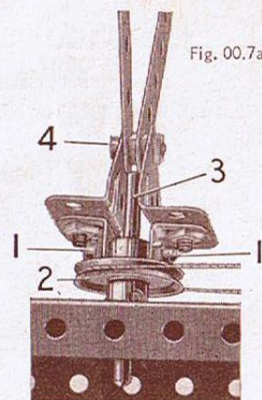

Fig. 00.7a
The bolts (1), each fitted with a nut, are passed through Angle Brackets and are screwed into the threaded holes in the boss of a 1" Pulley (2) until they grip a 2" Rod (3). This Rod is passed through a second 1" Pulley and the Flanged Plate and is held in position by a Spring Clip. The 5½" Strips are fixed by nuts on a ¾" Bolt (4), Fig. 00.7a. A piece of cord is wrapped two or three times round the Crank Handle, then passed round the 1" Pulley, and its ends are tied together to make an endless belt.